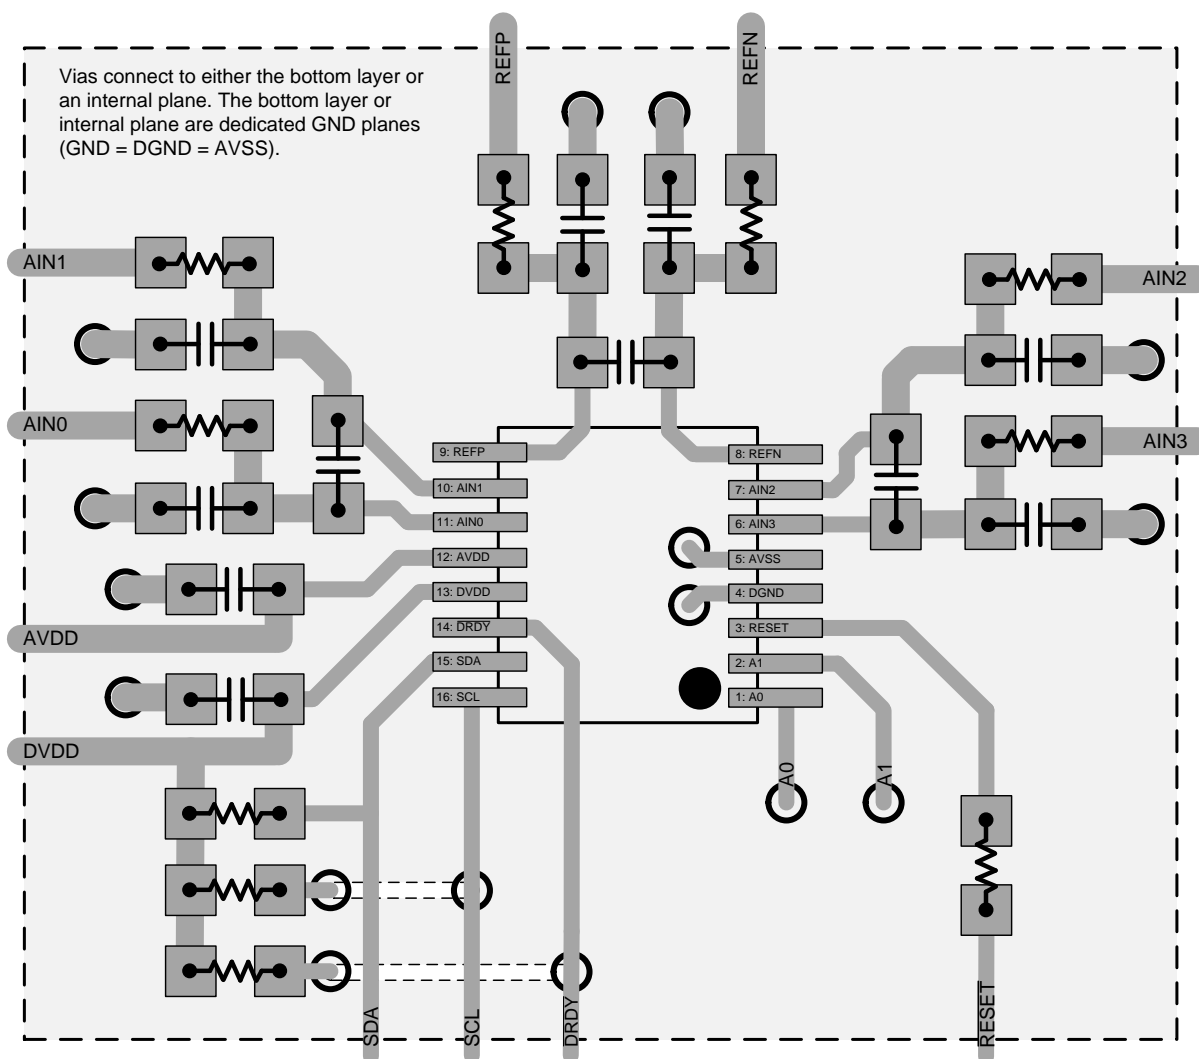

**Figure 82. System Component Placement**
Employing best design practices is recommended when laying out a printed-circuit board (PCB) for both analog and digital components. This recommendation generally means that the layout separates analog components [such as ADCs, amplifiers, references, digital-to-analog converters (DACs), and analog MUXs] from digital components [such as microcontrollers, complex programmable logic devices (CPLDs), field-programmable gate arrays (FPGAs), radio frequency (RF) transceivers, universal serial bus (USB) transceivers, and switching regulators]. Figure 82 shows an example of good component placement. Although Figure 82 provides a good example of component placement, the best placement for each application is unique to the geometries, components, and PCB fabrication capabilities employed. That is, there is no single layout that is perfect for every design and careful consideration must always be used when designing with any analog component.